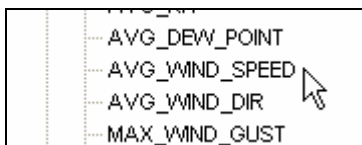

Figure 10.0.14
- In the weather station folders find the folder that is responsible for the hourly wind speed (Figure 10.0.14).